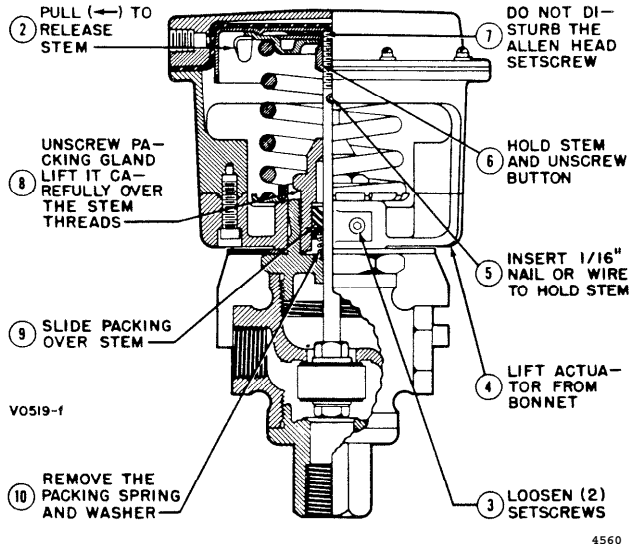

Fig. 5. Repacking Procedures (Steps 2 through 10).
2-10. Refer to Fig. 5 for steps 2 through 10.
12. Put a small amount of Plasti-Lub No. 2 on Teflon rings, upper half of stem, and inside of packing gland. Replace packing spring and follower. Place new Teflon rings on stem, one at a time, pointing toward valve seat (note Fig. 5). Be careful not to scratch or tear rings while sliding into place. Screw them over threaded part of stem if necessary.